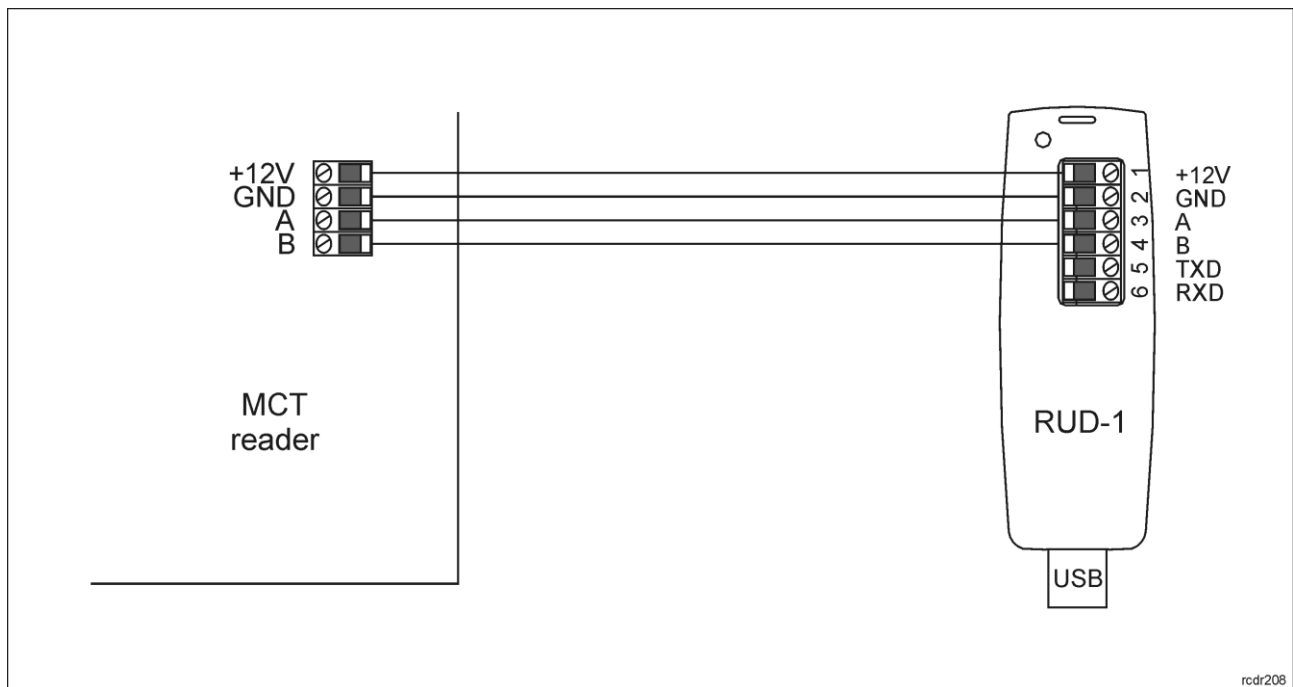

Fig. 9 Connection to RUD-1 interface (low level configuration)
1. Connect the reader to RUD-1 interface (fig. 9) and connect the RUD-1 to computer's USB port.